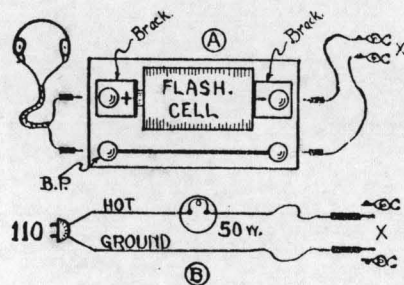

Fig. 3. Two Handy Short Checkers.
It is much easier to check parts before they are assembled, than to disconnect them later. If you have an Ohmmeter, you are in luck. If not, hook a pair of phones in series with a Flashlight battery and a couple of 3 ft. test leads with clips on the ends as at (A), fig. 3. Preferably, build a short checker as shown above. This will come in handy on many occasions for checking, or using the two top binding posts as an "A" battery for a tube set.
1. In (A), touch clips together. If a good "husky" click is heard in the phones, the phones are Ok. If no click is heard, the phones are open in the windings or cord, or there is a short circuit. If you get a good click, hook the clips together and shake the cord